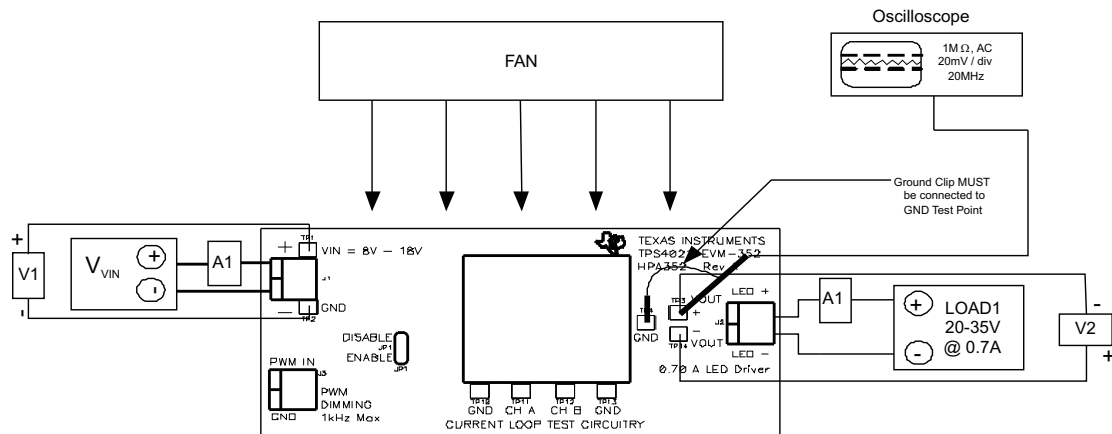

Figure 2. TPS40211EVM-352 Recommended Test Set-Up
The input voltage source (V_{IN}) should be a 0-V to 18-V variable dc source capable of 4 A_{DC}. Connect V_{IN} to J1 as shown in Figure 2.
Shown in Figure 2 is the basic test set up recommended to evaluate the TPS40211EVM-352. Note that the return for J1 and JP3 are not the same system ground. The connections should remain separate as shown in Figure 2.
2. Prior to connecting the dc input source, V_{IN} , it is advisable to limit the source current from V_{IN} to 4.0 A maximum. Make sure V_{IN} is initially set to 0 V and connected as shown in Figure 2.
3. Connect the ammeter A1 (0 A to 4 A range) between V_{IN} and J1 as shown in Figure 2.
4. Connect voltmeter V1 to TP1 and TP2 as shown in Figure 2.
5. Connect LOAD1 to J3 as shown in Figure 2. Set LOAD1 to constant current mode to sink 0 A_{DC} before V_{IN} is applied.
6. Connect voltmeter, V2 across TP7 and TP8 as shown in Figure 2.
4. Connect oscilloscope probe to TP14 and TP15 as shown in Figure 2.